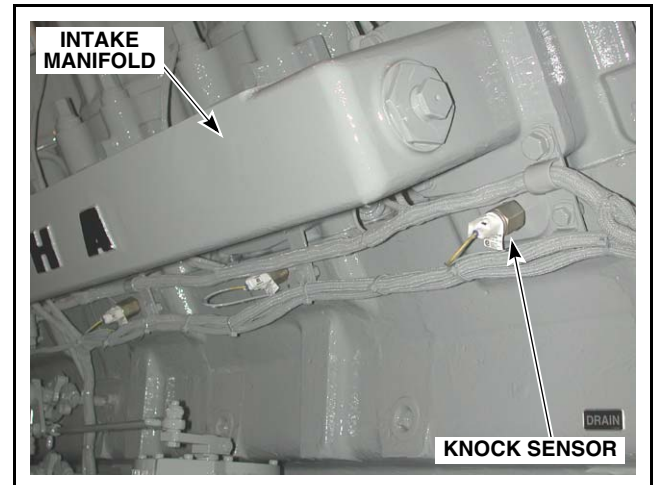
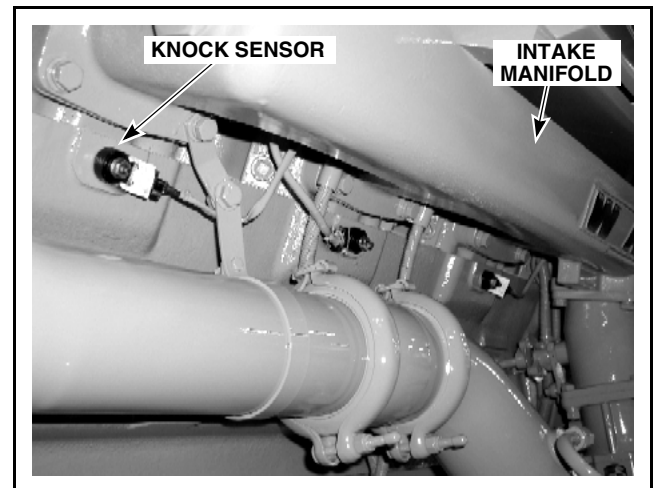

Figure 4.05-12 Knock Sensor (P/N A740110B)
Figure 4.05-13 Knock Sensor (P/N A740110C)
1. Thoroughly clean knock sensor mounting hole and area around mounting hole. The knock sensors are installed just below the intake ports on the sides of the engine crankcase (see Figure 4.05-12 and Figure 4.05-13).
3. Install knock sensor into the threaded mounting hole (see Figure 4.05-12).